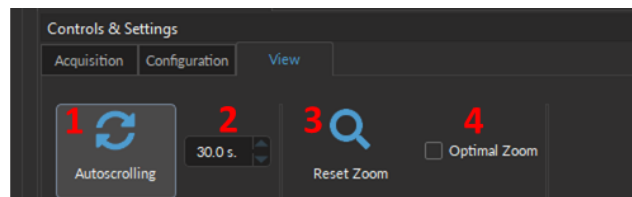

Figure 8.10: View Tab
The **View Tab** (Fig. 8.10) is used to modify the presentation of graphs in the **Acquisition view**.
1. The **Autoscrolling** button (Fig. 8.10, 1), when selected, automatically set the graphs to scroll as new data appears.
2. the **Zoom range** (Fig. 8.10, 2) sets the graph zoom to the value of choice, specified in the text-box.
3. The **Reset Zoom** button (Fig. 8.10, 3) readjusts the graph zoom to the value specified in the zoom range text-box.
4. The **Optimal Zoom** check-box (Fig. 8.10, 4) automatically adjusts the graph range based on the values of the data collected. Smaller values will lead to greater zoom, and vice versa.